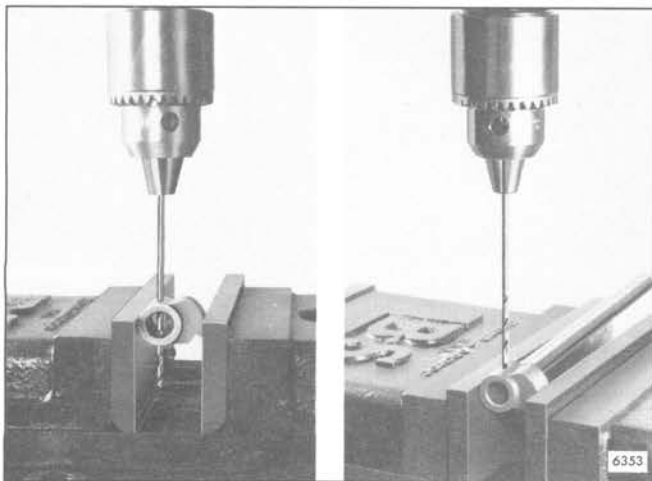

Fig. 4 – Aligning Drill Bit and Drilling Shaft
1. Install a 1/8" drill bit in the chuck of a drill press, then locate and align the bit through the existing hole in the shutdown cam (Fig. 4). Lock the cam in the holding fixture on the drill press, and withdraw the bit.
2. Insert the replacement shaft into the cam until the end of the shaft is recessed 1/8" from the end of the cam. Start the drill and bore a hole through the shaft (Fig. 4). Withdraw the drill bit, install the pin handle through the hole and remove the shaft from the drill press.